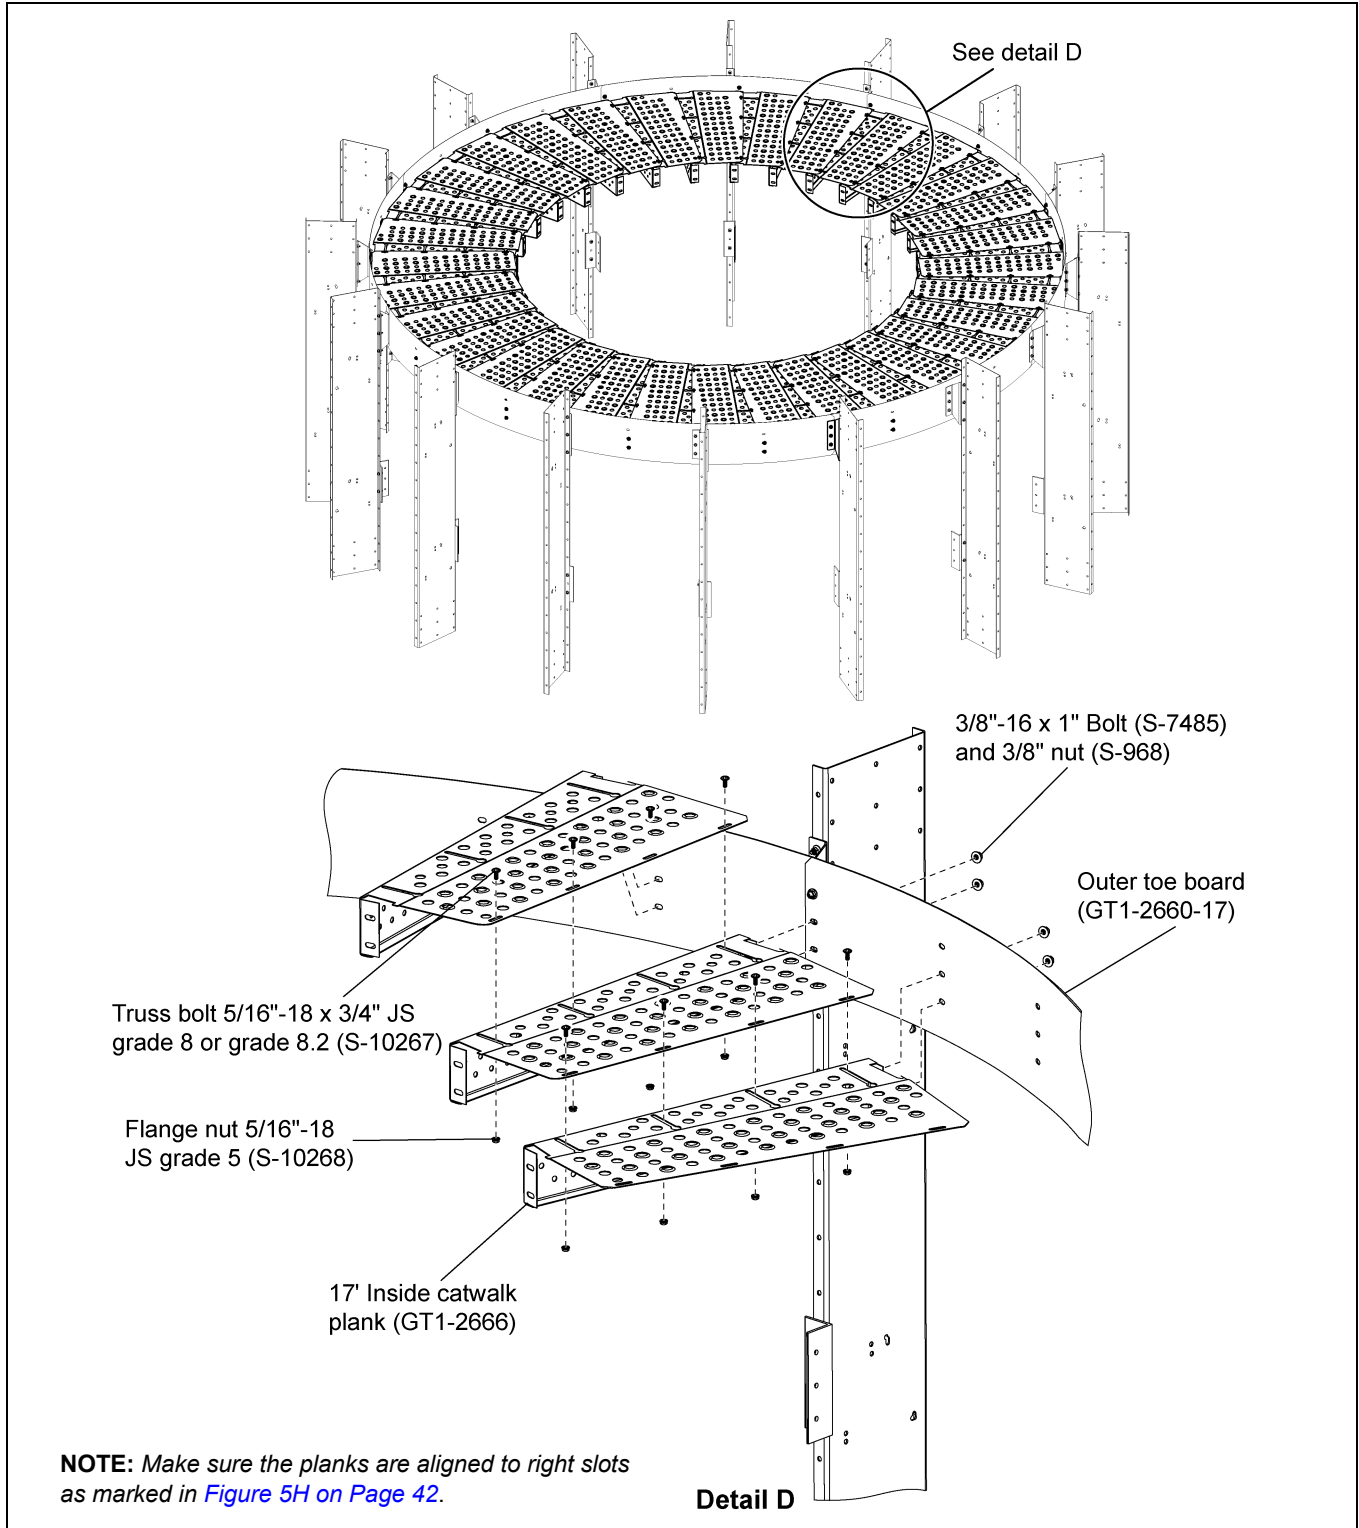

Figure 5F
1. Install the planks (GT1-2666) to the outer toe board (GT1-2660-17) using 3/8"-16 x 1" JS grade 8 or grade 8.2 bolts (S-7485) and 3/8"-16 ZN grade 5 nuts (S-968). (See Figure 5F.)